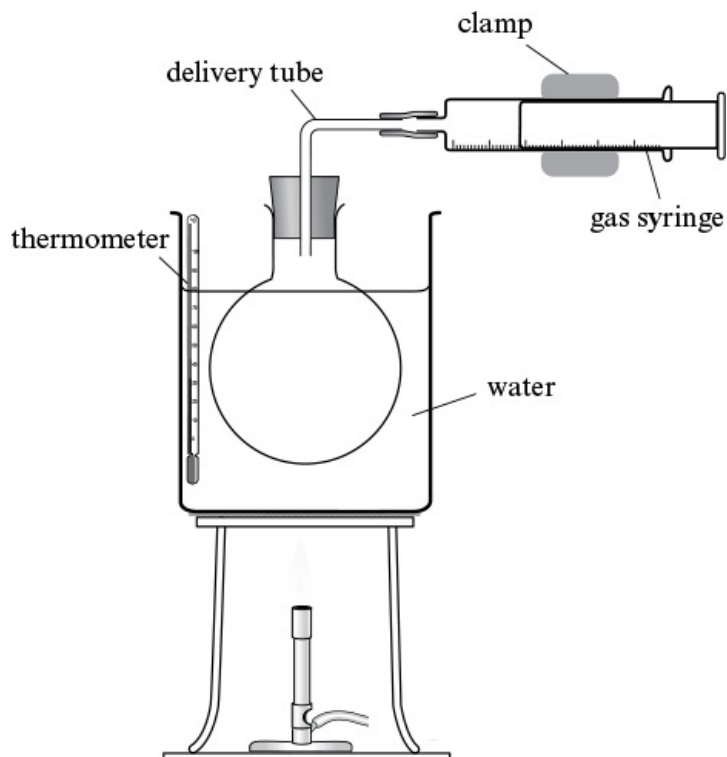

Figure 2.1: Investigating the expansion of gases
- 2 Set up apparatus as shown in Figure 2.1.